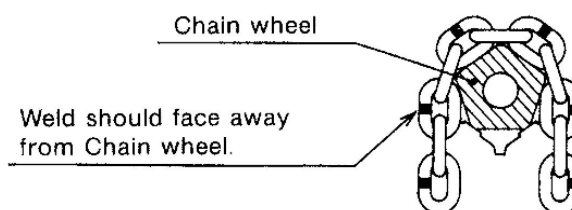

Fig.5
- Check the welds on Load chain are faced away from the center of Chain wheel (Fig. 5 ).